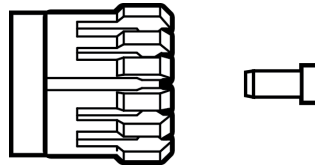

Figure 6. Removing the Rubber Nail from the Sealing Insert
2. Remove the rubber nail from the sealing insert. See Figure 6.